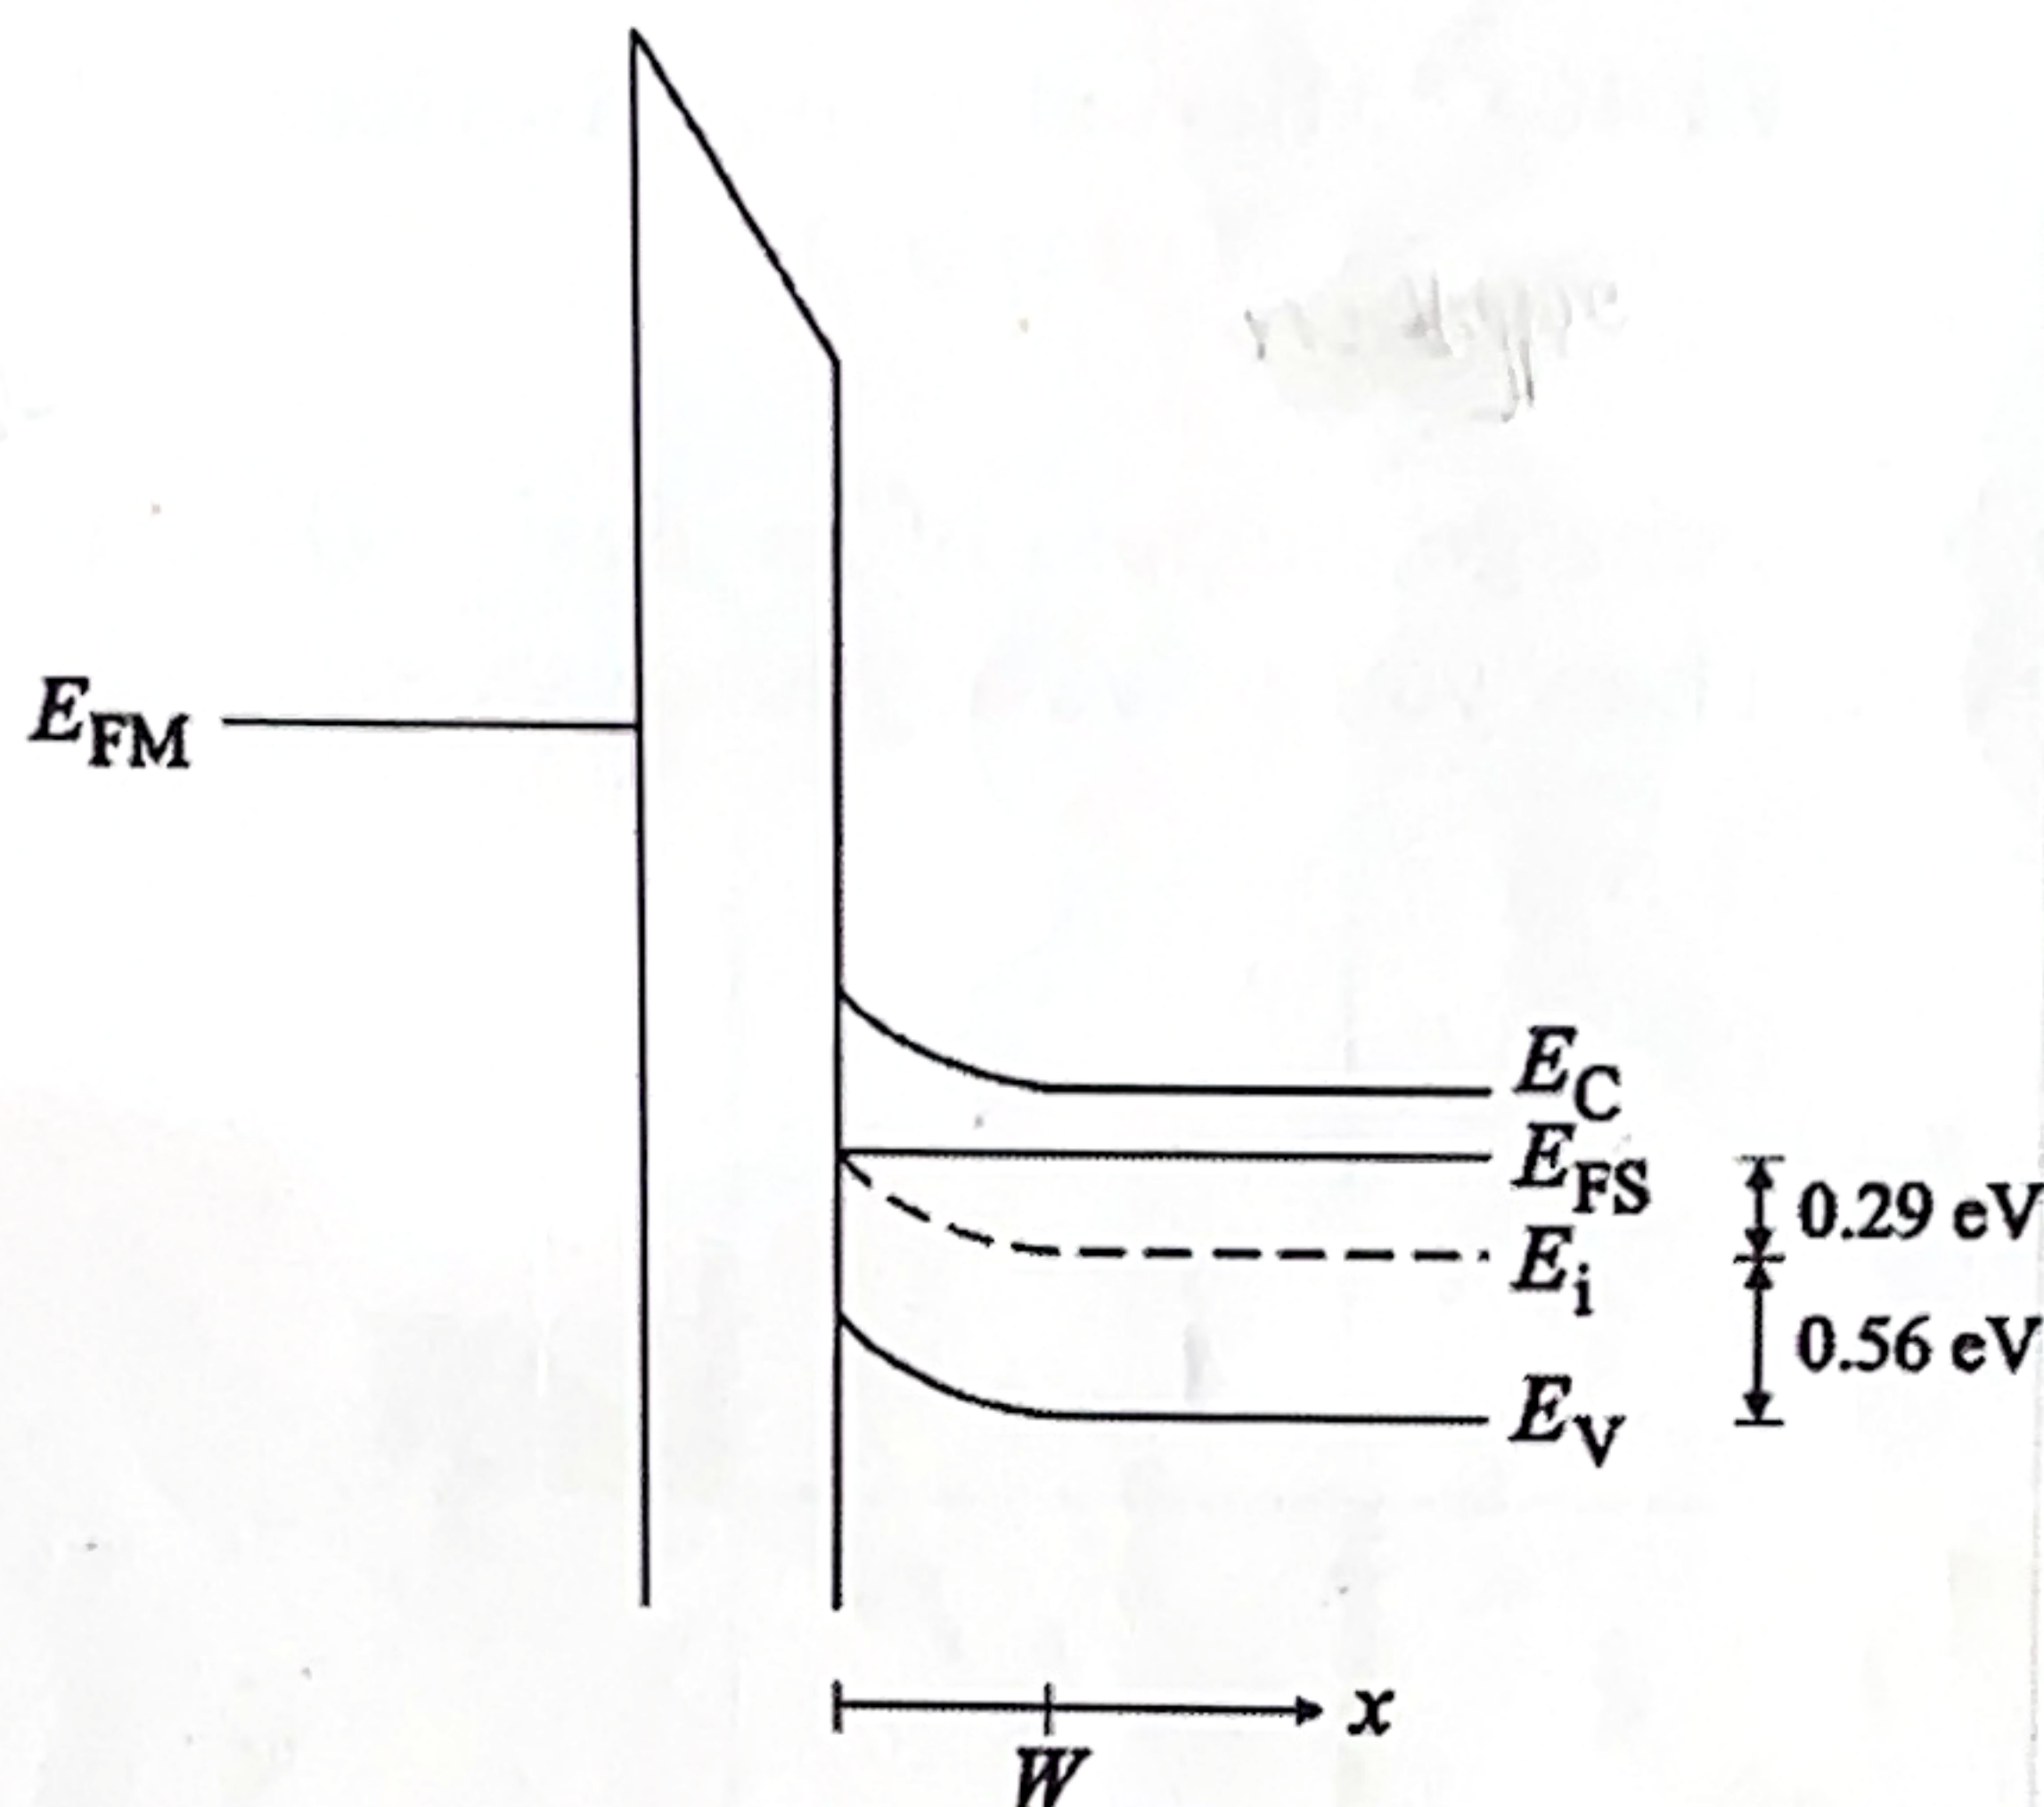

Fig. Q3
3. The energy band diagram for an ideal MOS capacitor at $T = 300\text{ K}$ is shown in Fig. Q3. The gate oxide is $0.2\text{ }\mu\text{m}$ thick. The applied gate voltage causes band bending in the semiconductor such that $E_F = E_i$ at the $\text{Si}-\text{SiO}_2$ interface.